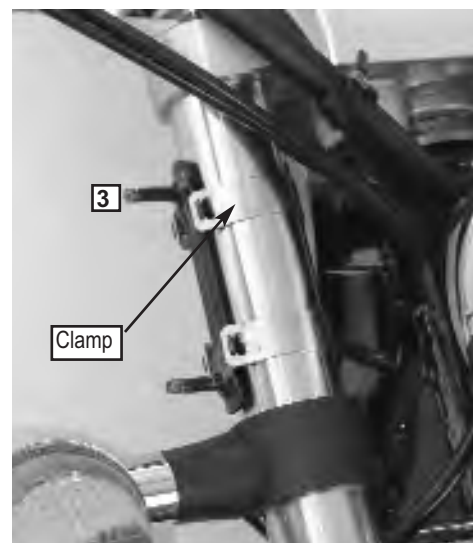

Figure 1.
5. Use the Spiders from the **Chrome Lower Kit** to install the Clamps in the precise location as specified in the Mount Kit Installation Manual. **Figure 1.**